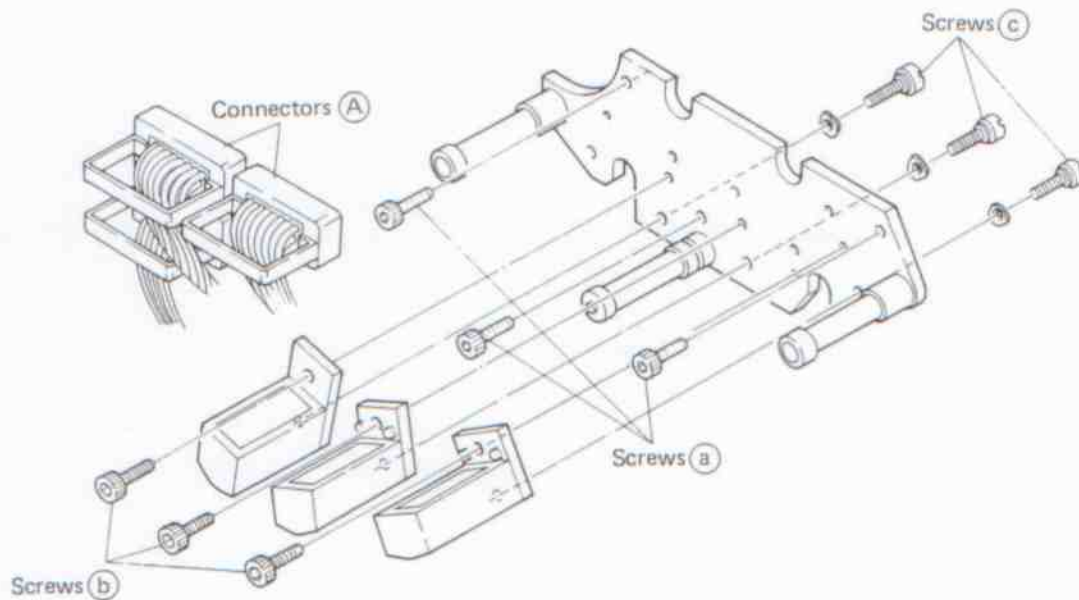

Fig. 7-6. Head Ass'y
1. First, remove the head housing as described in 7-4-1 (A).
2. Using a 3 mm Allen wrench, remove the three Allen screws (a) holding the head as shown in Fig. 7-6.
3. The head can be removed by first removing Allen screws (b) located on the rear of the head and then removing the other screws (c) from the rear of the head base. Finally, unplug the connectors (A).